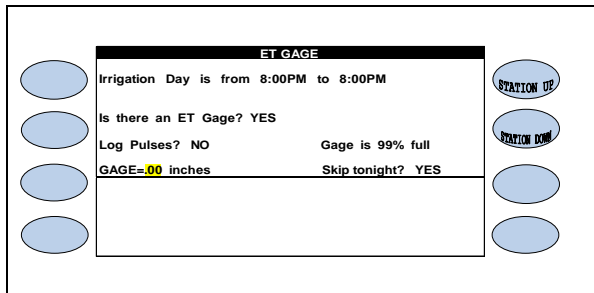

Figure 5.8
10. Press the blue **ARROW** keys to move the cursor to the GAGE=.00 INCHES setting (Figure 5.8).